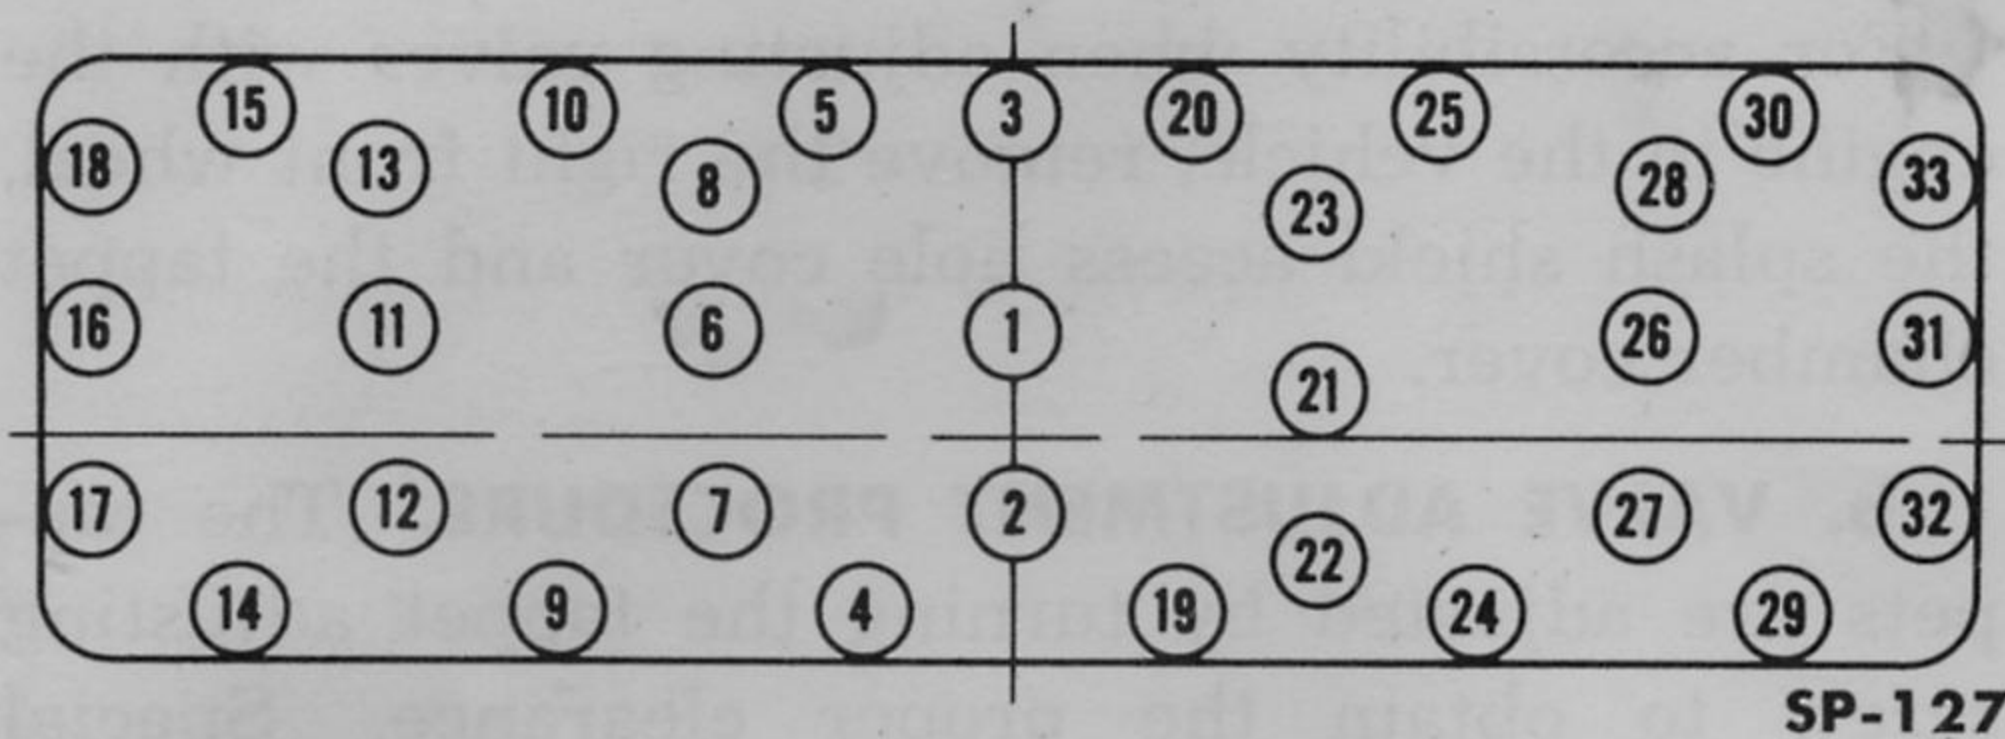

Fig. 97—Cylinder Head Bolt Tightening Sequence
v. INSTALL CYLINDER HEAD. Make certain that the entire top of the cylinder block assembly, the lower surface of the cylinder head, and the cylinder head gasket are clean. Carefully place the cylinder head on the cylinder head gasket on the cylinder block. Install the cylinder head bolts and tighten down snugly in the order shown in Fig. 97. Using a torque wrench, complete tightening of the bolts in the same order as the initial tightening. Specified torque is 30–35 foot pounds.